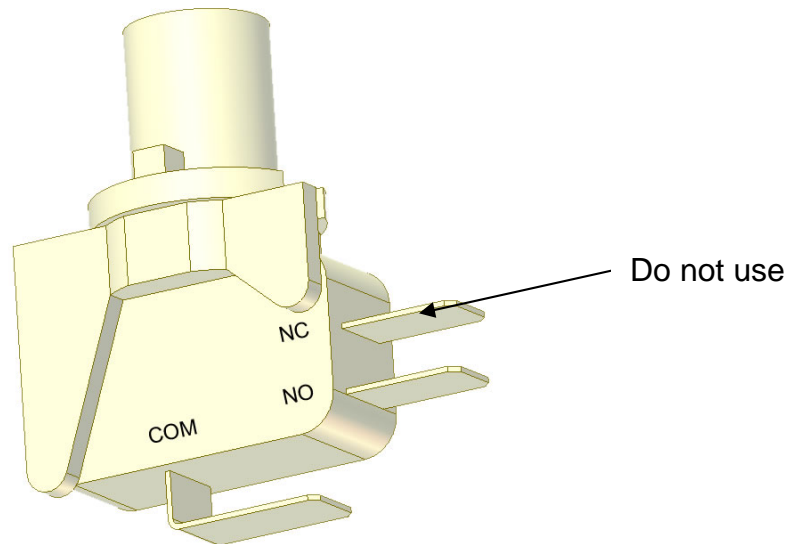

Figure 16, 10th Frame Switch
2. Attach the 10th frame switch wires to the odd and even lane switches. For each switch, put one connector on the common or "COM" and the other on the normally open or "NO" terminals (see figure 16).